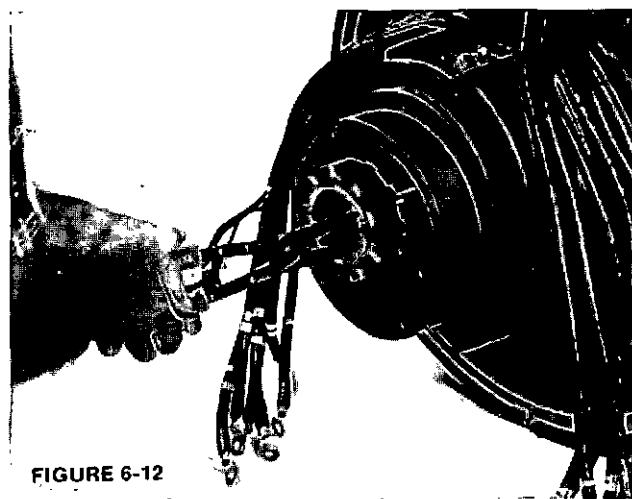

FIGURE 6-12
2. To remove the PMG rotor from the stub shaft, use a snap ring plier, remove the snap ring and slide the PMG rotor off the shaft. A loading spring behind the PMG rotor keeps tension on the snap ring to prevent movement. (See Figure 6-12 and 6-13.)